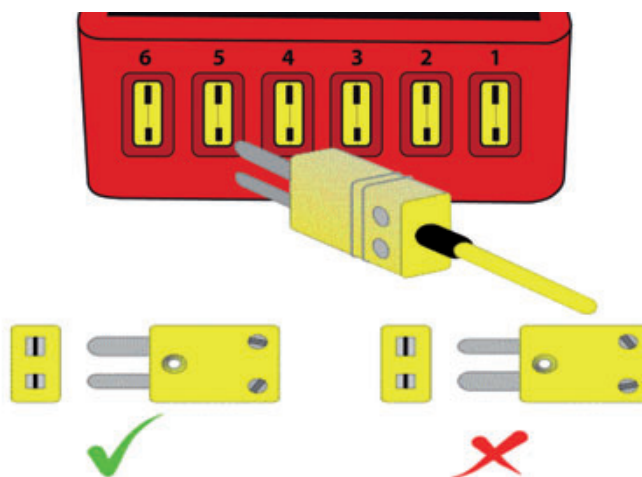

Figure 2
N.B.: The pins of the thermocouple plug are different in width and can only be plugged-in in one way, see Figure 2.